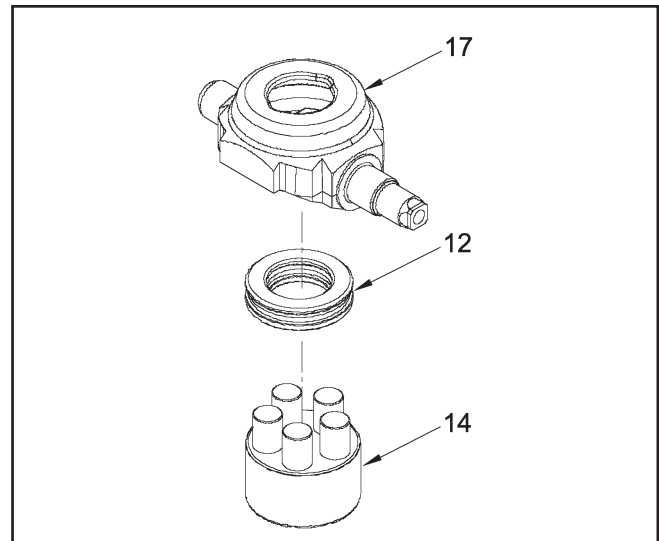

Figure 12
9. **(See Figure 12)** Disassemble the pump cylinder block (14) from the swashplate (17).
15. **(See Figure 12)** Place the pump block assembly (14), pistons down, on top of the thrust bearing in the swashplate (17).